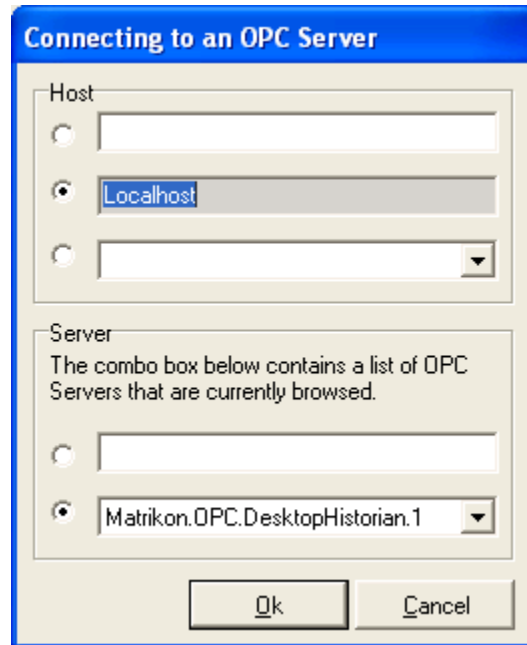

Figure 12 - Connecting to an OPC Server Window (Other Network Computers)
- The browser pane allows users to choose OPC servers on the **Local** or **Networked** machines. Another option for remote connections is the **Other Network Computers** option. Right-clicking your mouse on this item and selecting **Add/Connect Server** displays the **Connecting to an OPC Server** window (Figure 12) which allows you to manually enter a host name/IP address and OPC Server Prog ID.